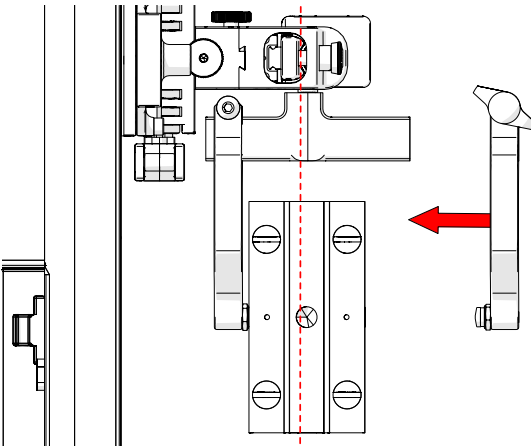

Fig. 195 - Align probe with yoke
6. Align the middle of the wedge with the centre of the yoke (Fig. 195).
7. Tighten both the probe holder adjustment knob and the arm clamp screw (Fig. 195) while ensuring the wedge remains centred with the yoke.